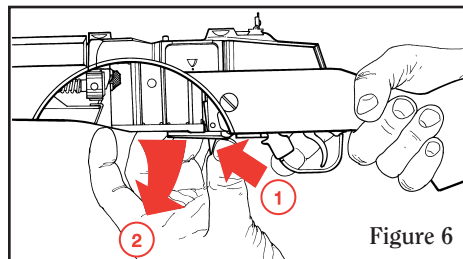

Figure 6
1. With the rifle pointing in a safe direction, safety “ON”, remove the magazine by pushing catch forward to release magazine, while drawing magazine down and forward (See Fig. 6).